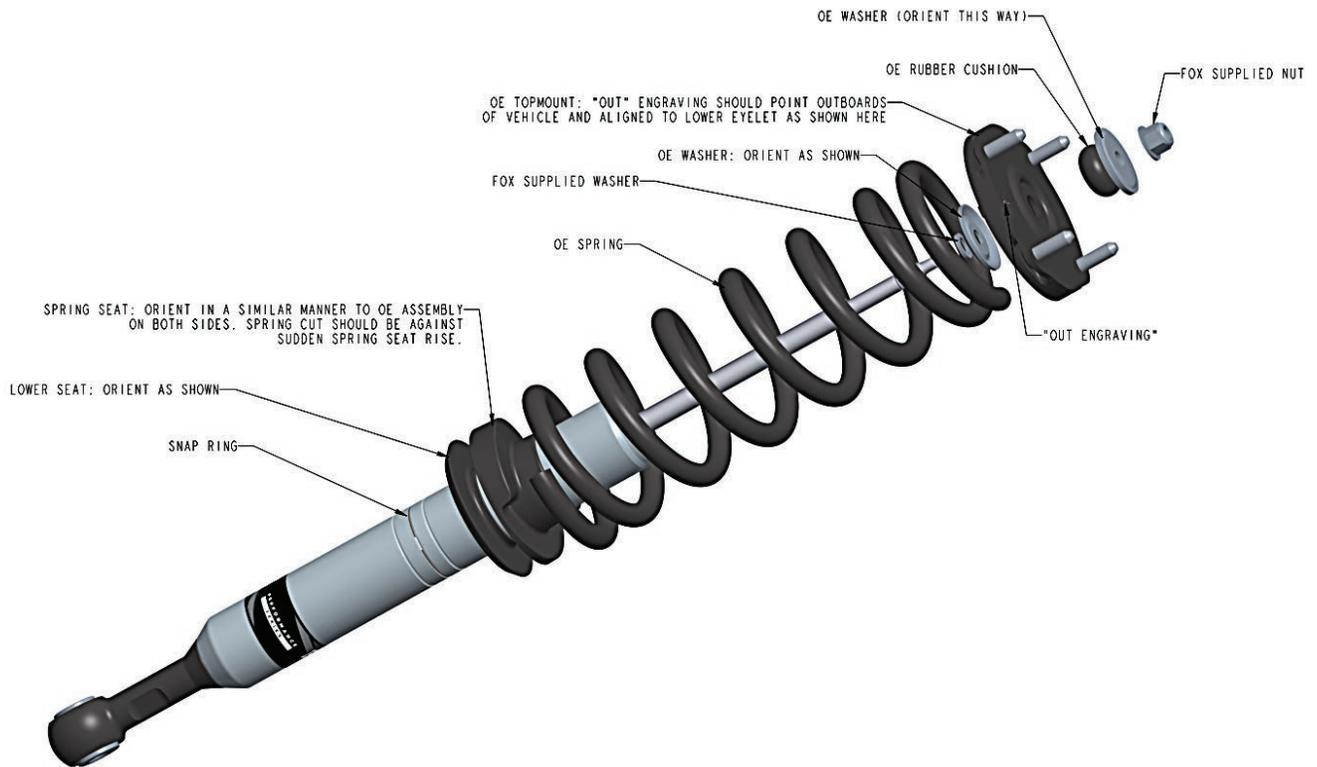

Figure 6: Illustration of FOX shock assembly order (reference OEM assembly for spring orientation)
- 5b. Position onto FOX shock the snap-ring, spring seat, and lower seat. On the shaft make sure FOX supplied washer and curvy OE washer are stacked (Figure 6).